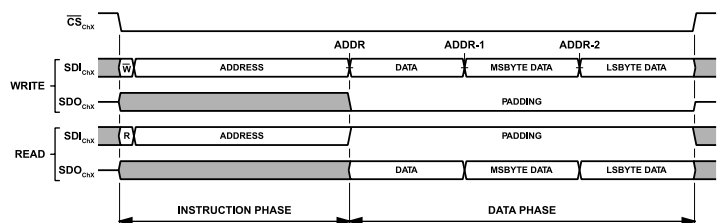
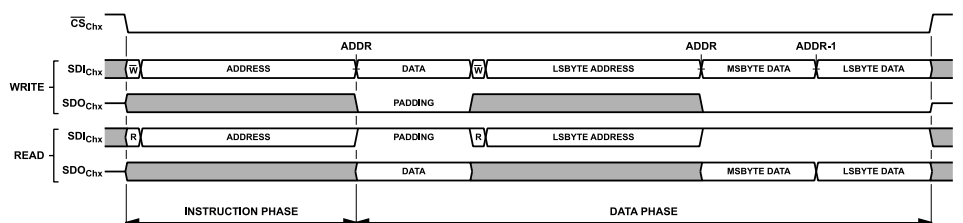
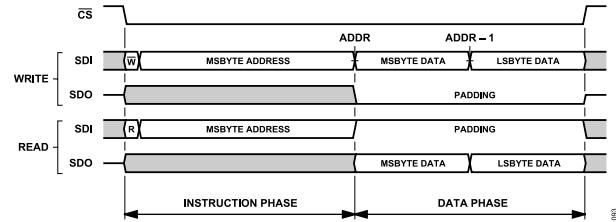
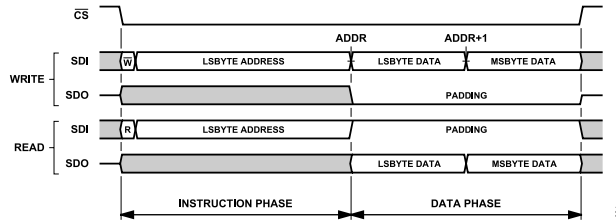

Figure 91. Interface Access Example, Default Interface Configuration, Streaming Mode (ADDR_ASCENSION = 0)
Figure 92. Interface Access Example, Single Instruction Mode (SINGLE_INST = 1), All Other Interface Options Default
Figure 94. Single Instruction Format, $ADDR_ASCENSION = 0$ (Descend), $STRICT_REGISTER_ACCESS = 1$ (Enabled)
Figure 95. Single Instruction Format, $ADDR_ASCENSION = 1$ (Increment), $STRICT_REGISTER_ACCESS = 1$ (Enabled)
Figure 91 shows the generic SPI frame formatting for a serial transaction using the default interface configuration. In this example, a portion of the configuration register space consisting of a byte-wide register and a multibyte register is accessed. The address for the byte-wide register resides in the most significant address (ADDRESS) and the most significant byte of the multibyte register resides in the least significant address of the register segment. By default, the ADDR_ASCENSION property is set to descending, indi-
accessed in a given SPI frame, as shown in Figure 92. This mode is useful when access to nonadjacent sections of the register space is required in a given SPI frame. Note that, the same access flexibility can be achieved in stream mode by initiating a new SPI frame for each unique register access.
The address ascension selection (ADDR_ASCENSION) bit, as described in previous sections, determines how the internal interface address pointer is updated for each byte of data transmitted to the AD4883 channel in streaming mode (SINGLE_INST = 0). If using single instruction mode (SINGLE_INST = 1), each register is directly addressed through its own instruction phase, as shown in Figure 92, and thus, the address pointer is not updated. Regardless of the setting for SINGLE_INST, the ADDR_ASCENSION bit directly impacts the formatting of the SPI frame in terms of selection of the instruction phase starting address and byte order of the data phase payload. This impact is described in greater detail in the Strict Access Selection and Multibyte Registers section as much of the data formatting is dependent on this interface configuration selection. The ADDR_ASCENSION selection bit is located in the Interface Configuration A register (see the Interface Configuration A Register section, Address 0x00).
As shown in Figure 94, the address counter, by default, automatically decrements ($ADDR_ASCENSION = 0$) such that the most significant byte of the multibyte register is accessed first, followed by the remaining byte(s) in that register in ascending order. Conversely, if $ADDR_ASCENSION = 1$, the least significant byte of the multibyte register is accessed first followed by most significant byte.
ically decrements ($ADDR_ASCENSION = 0$), the starting address is assigned to the register address for the most significant byte of that multibyte register, and conversely, if configured to increment automatically, the starting address must be set to the register address for the least significant byte. As a result of the change to $ADDR_ASCENSION$ from automatic address decrement (0) to automatic increment (1), Figure 91 and Figure 92 change as shown in Figure 94 and Figure 95 to accommodate the changes in data phase byte order and instruction phase multibyte register start address.